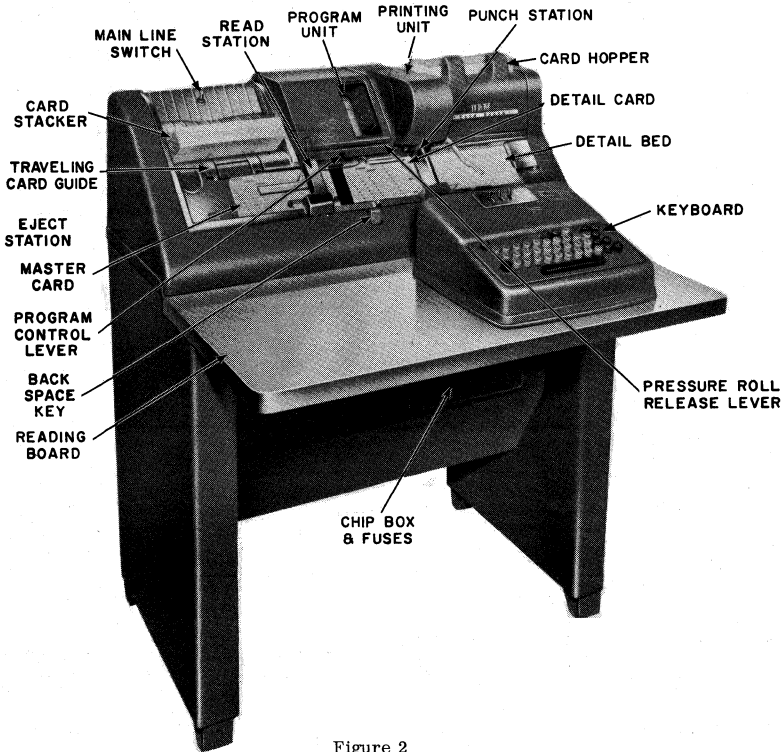

Figure 2
1. The 026 card punch (Figure 2) has a printing unit which prints the punched character on the tab card at the top of the card column. The printing and punching operations occur simultaneously. The 024 card punch does not contain the printing unit and cannot